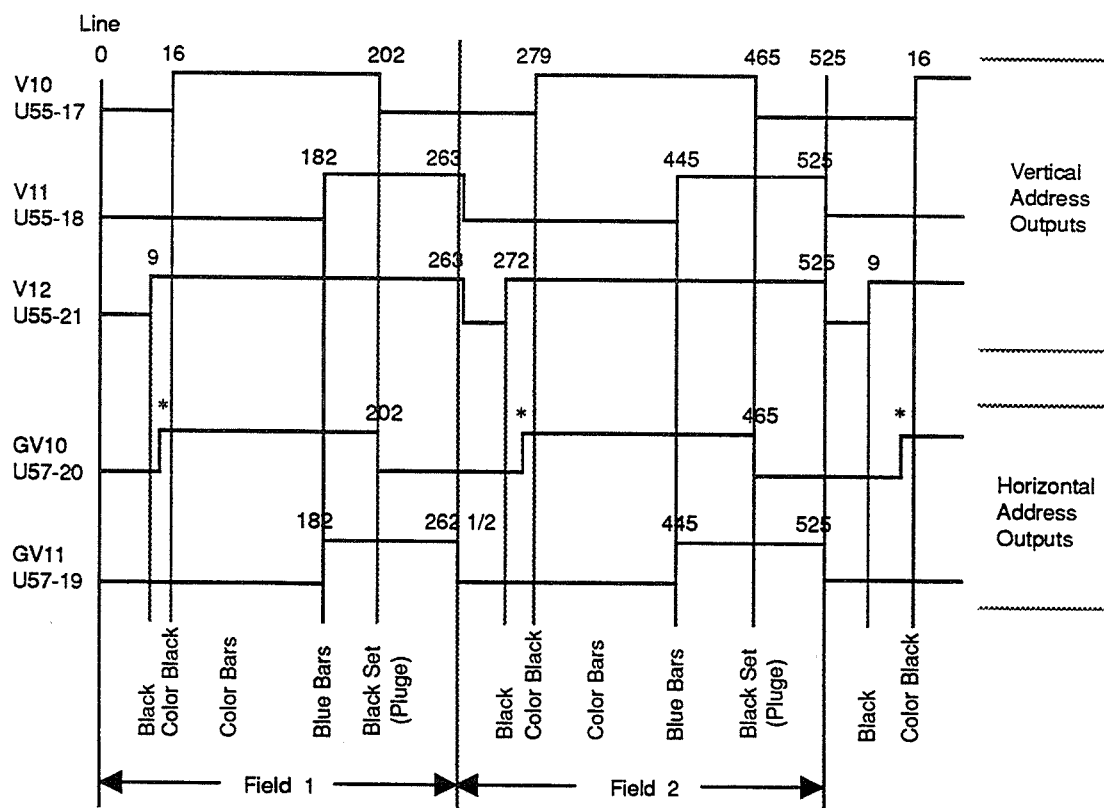

Figure 4-2. Vertical and Horizontal Address Generator Timing Diagram
**Vertical Address Generator (Refer to Figure 4-2)**
### Horizontal Address Generator (Refer to Figure 4-2)